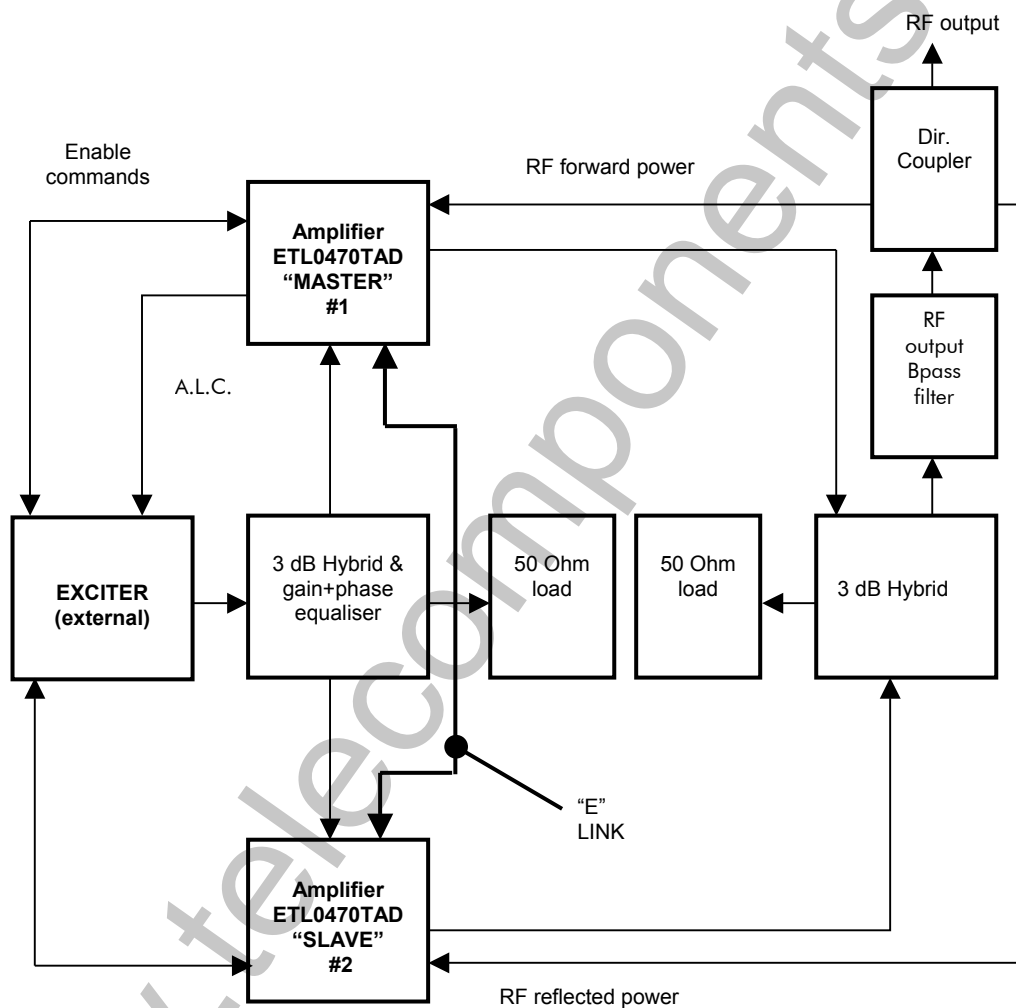

Figure 3: ETL0480TBD TV RF Amplifier blocks diagram
- ⇒ Turn your head away and take another breath, watching for the chest to FALL (figure 3).
- With reference to the general Blocks diagram, Figure 3, the output signal from the Exciter, at a nominal level of 4 W, reaches the low power, 3 dB hybrid, which splits the drive into 2 components of 2 W each. This hybrid incorporates a step attenuator and a step phase shifter to adjust the slight differences of gain and phase of the two RF Amplifiers. The resultant signals drive the two ETL0470 tandem connected RF Amplifiers to an output level of 600 W each. The 3 dB high power hybrid connected to the outputs of the two RF Amplifiers sums the output signals to a nominal level of 1kW.